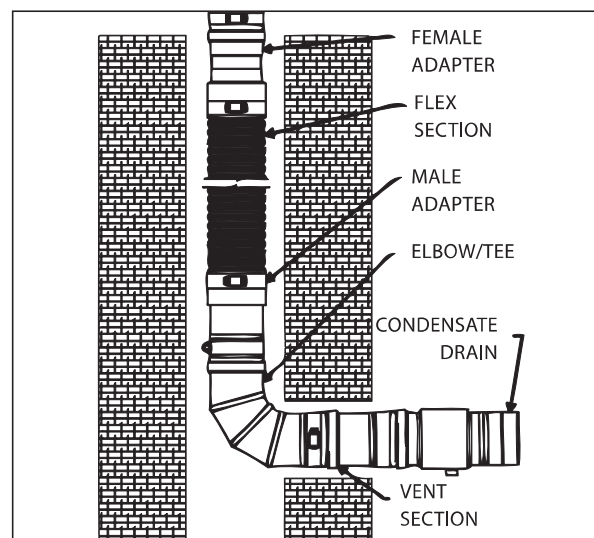

Figure 11
4. The FasNSeal Flex must stay within the masonry chimney; however the Elbow or other FasNSeal components will extend beyond the masonry chimney. **(Figure 11)**